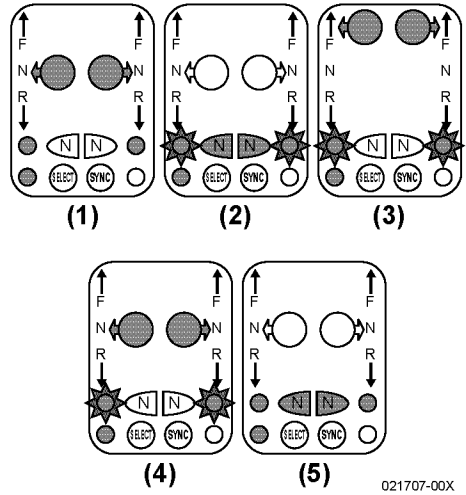

Figure 17
1. Return the handle(s) to neutral. The N (NEUTRAL) lights glow steadily (**Figure 17, (1)**).
2. Press the NEUTRAL button(s) (**Figure 17, (2)**). The NEUTRAL light (s) flash (star around light(s) in (**Figure 17, (2)**)).
3. Move the handle(s) to forward or reverse throttle (**Figure 17, (3)**) resulting in engine rpm control without engaging marine gear.
1. Return the handle(s) to NEUTRAL (**Figure 17, (4)**).
2. Press the NEUTRAL button(s) (**Figure 17, (5)**). The neutral light(s) glow steady (**Figure 17, (5)**).